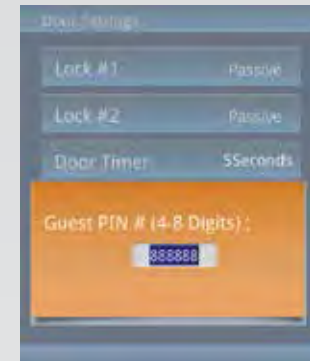

Fig 5.06-1
- e) From the Door Settings menu, use the ▲ or ▼ keys to highlight the Guest Pin # menu option. Touch **OK** to pop up the interface shown in **Fig 5.06-1**.